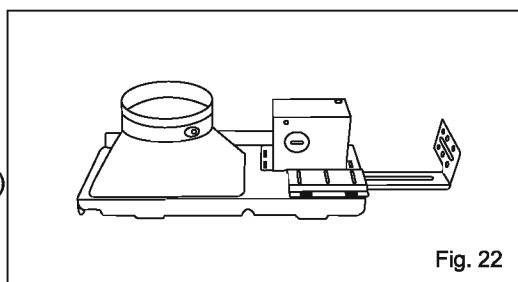

Fig. 22
1. Disconnect plug connector from receptacle and remove adaptor from fan body before starting installation. (Fig. 22)